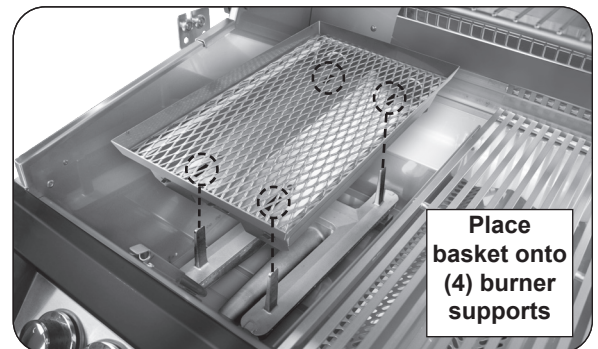
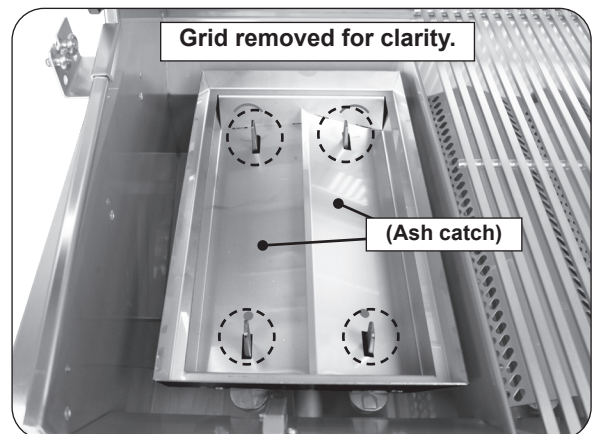

Fig. 36-3 Place basket onto burner
Fig. 36-4 Basket placement detail
3. Place basket onto burner in place of flavor grid. Align basket cutouts over burner supports (see Fig. 36-3 and Fig. 36-4).